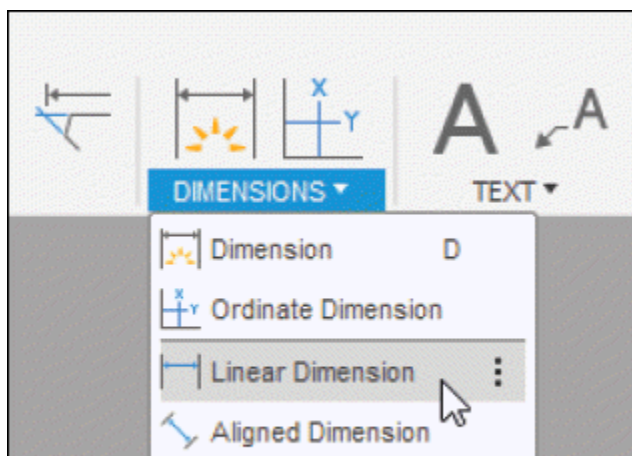

Figure-54. Linear Dimension tool
- Click on the **Linear Dimension** tool from the **DIMENSIONS** panel in the **Toolbar**; refer to Figure-54. You will be asked to select points.